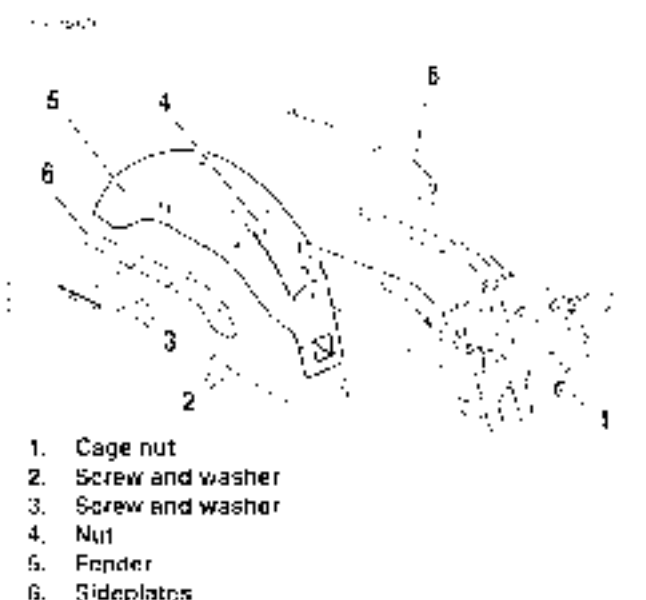

Figure 2-121. Rear Fender: FXD, FXDX & FXDL
1. See Figure 2-121. From under fender, remove screw and washer (2) securing front of fender to cage nut (1) on frame.
3. Remove screws/washers (3) and nuts (4) that hold fender in place and carefully remove fender and side plates (5).
2. See Figure 2-121. Place fender and sideplates (6) into position. Apply **LOCTITE THREADLOCKER 243** (blue) to screw (3) threads. Tighten nuts (4) to 12-18 ft-lbs (16.3-24.4 Nm).
4. Attach front of fender to frame with screw/washer (2) and cage nut (1).